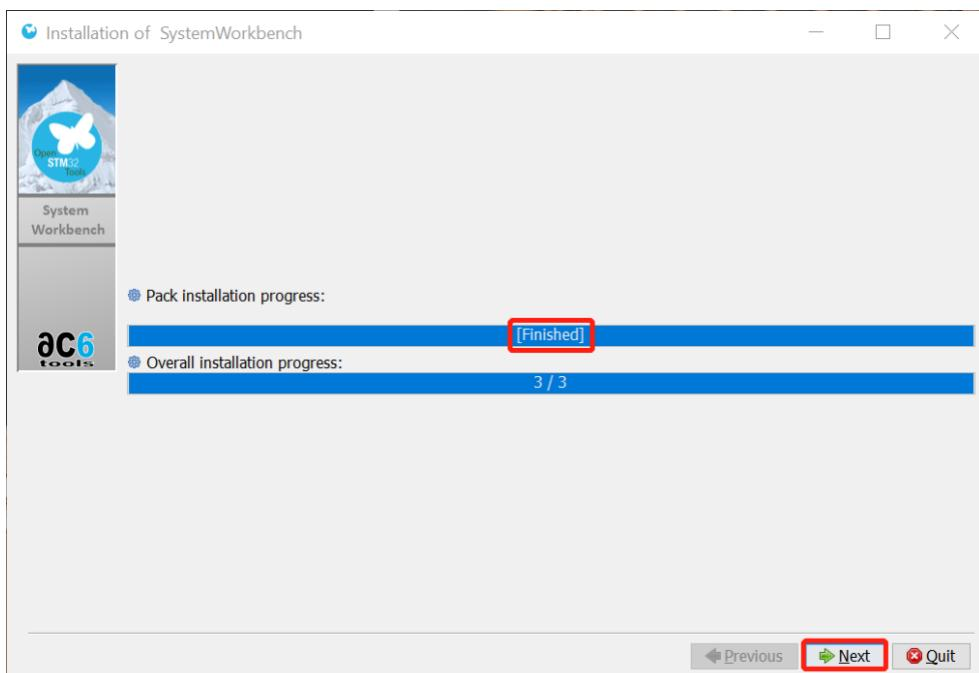

Figure 8: Installation has been finished
9. Wait until the installation has been finished. See Figure 8.